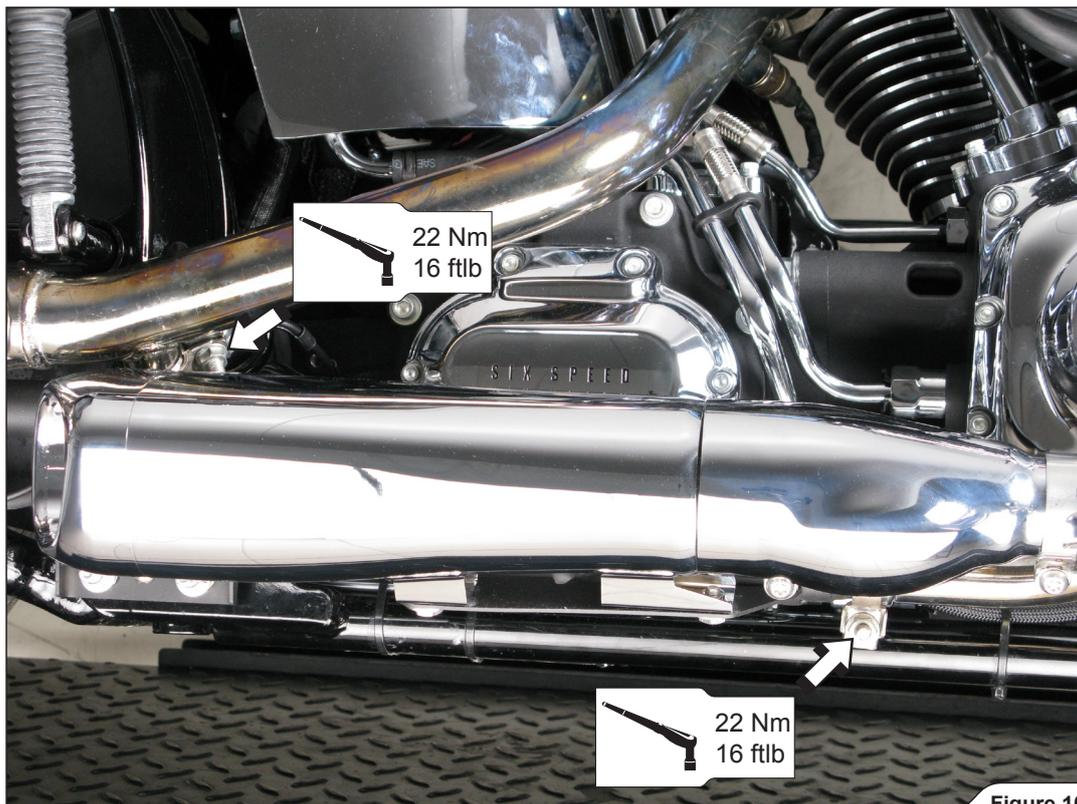

Figure 10
5. Tighten the headers-bracket connection clamps to a specified torque (Figure 10).